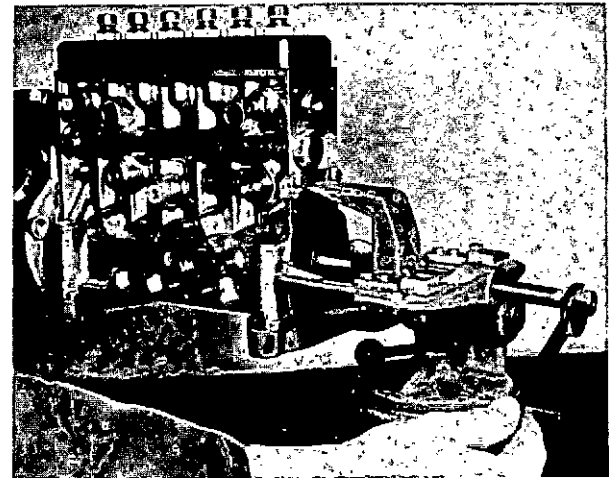

Fig. 5 Withdrawing drive end bearing plate.
7. Turn the pump upright and remove the screws securing the drive end bearing plate. Referring to fig. 5, fit supporting bracket 1 682 329 011 and withdraw the bearing plate by using a claw